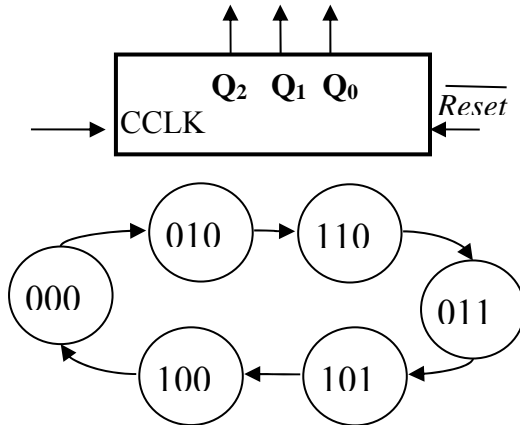

Figure 1: (a) Block diagram and (b) State Diagram of a Modulo 6 counter
Block diagram in Fig. 1.(a), has to observe the following counting sequence: 000 --> 010 --> 110 --> 011 --> 101 --> 100 --> 000. This counter is to be implemented with JK flip flops which have active-low asynchronous *Reset* inputs (CLR_N); the flip-flops' clock inputs (CLK) are connected all together to CCLK (counter clock).
1. Draw the circuit diagrams using the graphics editor of Quartus in a schematic file and save the corresponding *.bdf* file. Use the counter's signal names suggested in the block diagram (Figure 1. a) when editing the names of the pins of your circuit. In the *Project Navigator* pane select the *Files* tab; right-click on your *schematic file (.bdf)* and select *Set as Top Level Entity*. Also save the schematics as a **jpeg** file or print it for inclusion in your report.